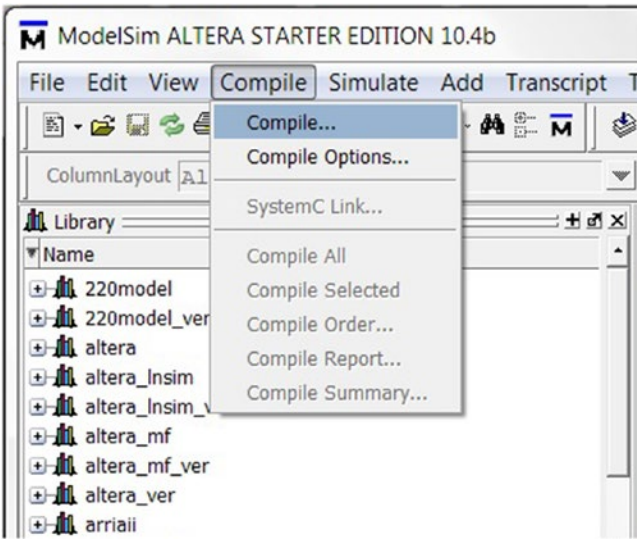
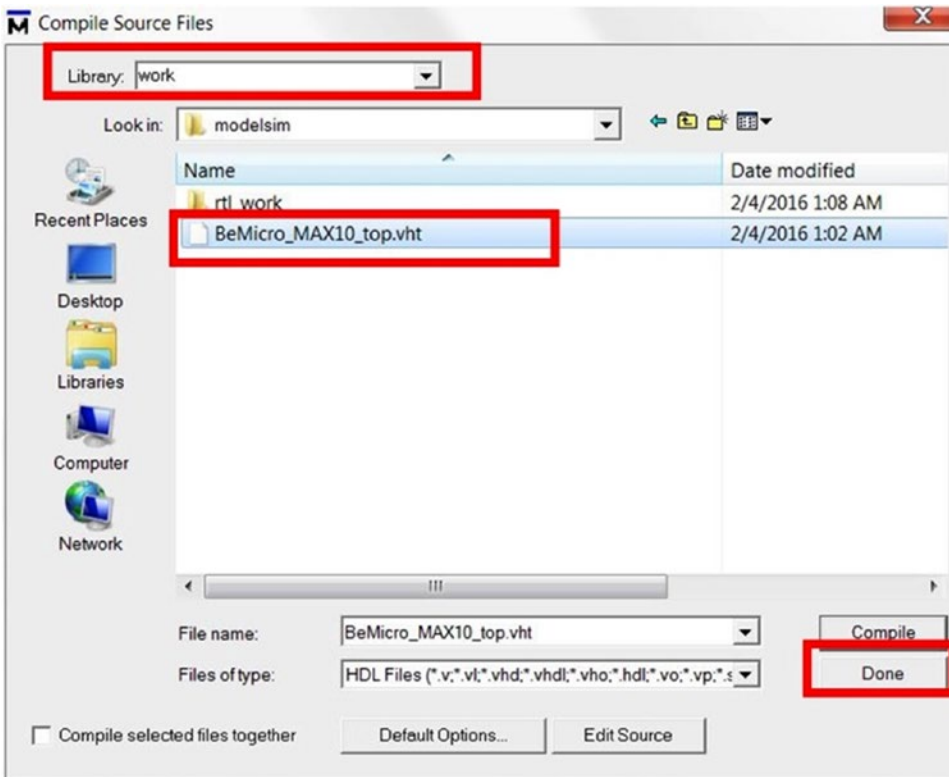

Figure 4-37. Compile test bench from the GUI
Figure 4-38. Compile test bench from the GUI
5. You can compile your test bench using the graphical user interface (GUI) too. Click **Compile** ► **Compile...** from the menu (Figure 4-37). It will open the Compile Source Files dialog. Make sure your settings are the same as shown in Figure 4-38, select `BeMicro_MAX10_top.vht` and then click the **Compile** icon. Step 4 and step 5 both compile the test bench file `BeMicro_MAX10_top.vht` into the **work** library. Click **Done** to leave the dialog.